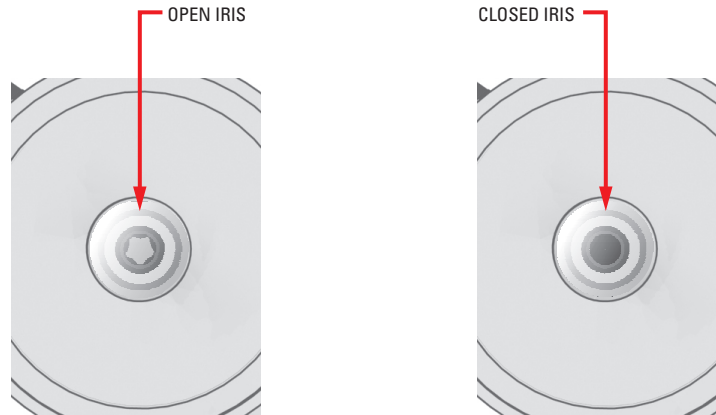

Figure 12. Open Iris and Closed Iris
7. Hold the auto iris lens so you can watch the iris (refer to Figure 12). Then increase the DC OFFSET setting slowly until the iris closes.